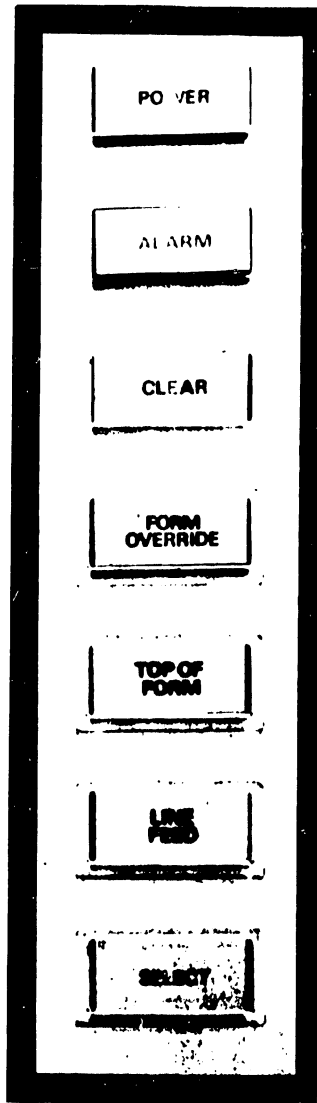

Figure 2-6. Main Control Panel
2.4 OPERATOR CONTROLS AND INDICATORS (SEE FIGURES 2-6 AND 2-7)